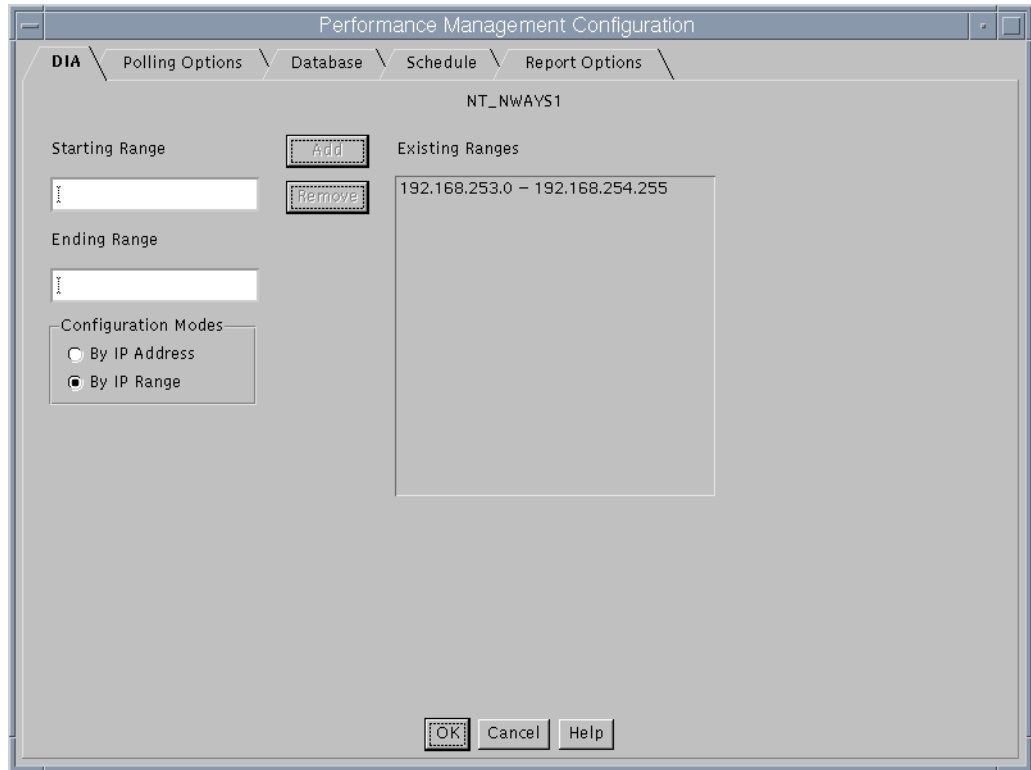

Figure 202. Configuring IP Address Range
2. Using the left mouse button, drag the remote DIA icon and drop it over the white Network Management Server icon. You should see the DIA's IP configuration screen. Figure 202 shows the configuration for NT_NWAYS1.